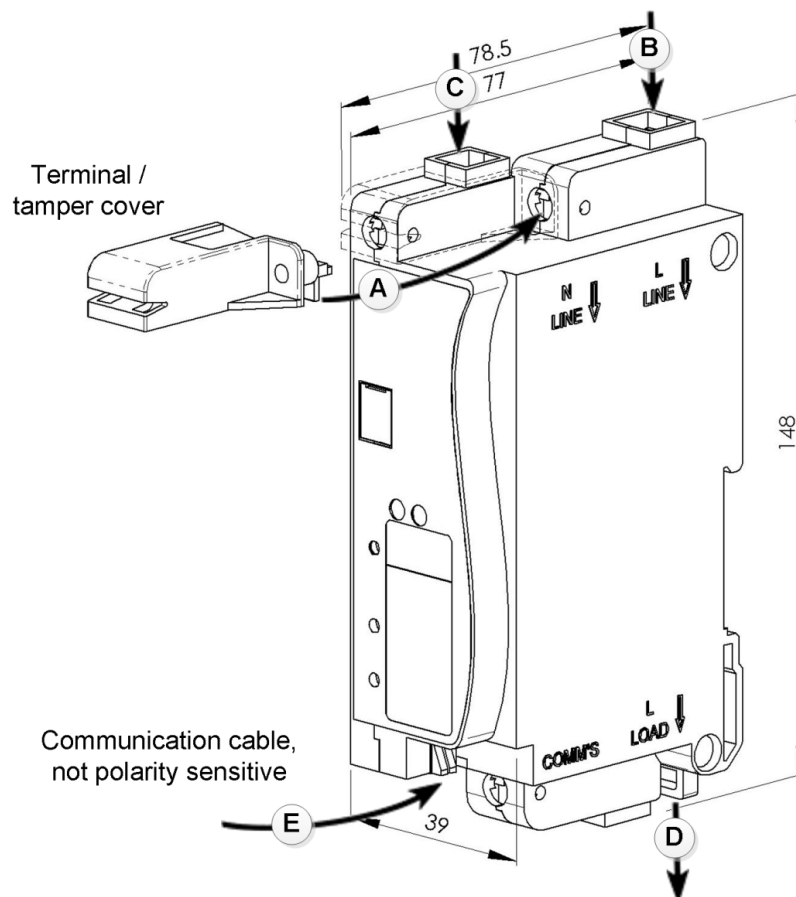

Figure 2: MCU side view
1. Remove the terminal cover (*Figure 2-A*) by sliding it outwards.
2. Connect the incoming live supply to L LINE (*Figure 2-B*).
3. Connect the incoming neutral supply to N LINE (*Figure 2-C*).
4. Connect the outgoing live supply to L LOAD (*Figure 2-D*).
5. Connect the communication wires for the UIU to COMMS (*Figure 2-E*) by pushing the orange clips and inserting the wires. The terminals are not polarity sensitive.